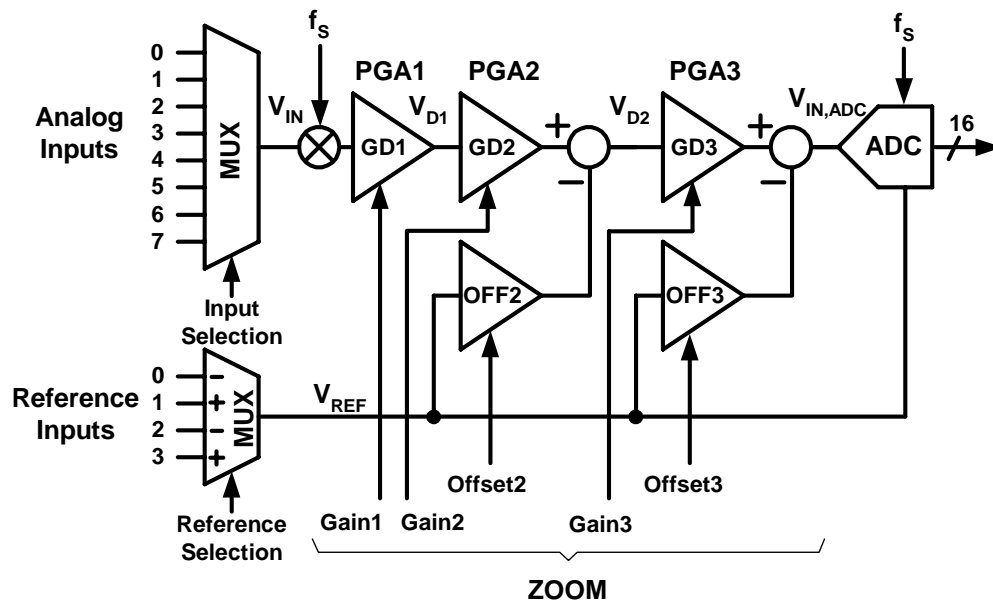

Figure 17-1. ZoomingADC™ general functional block diagram
Figure 17-1 shows the general block diagram of the acquisition chain (AC). A control block (not shown in Figure 17-1) manages all communications with the CoolRisc™ microcontroller.